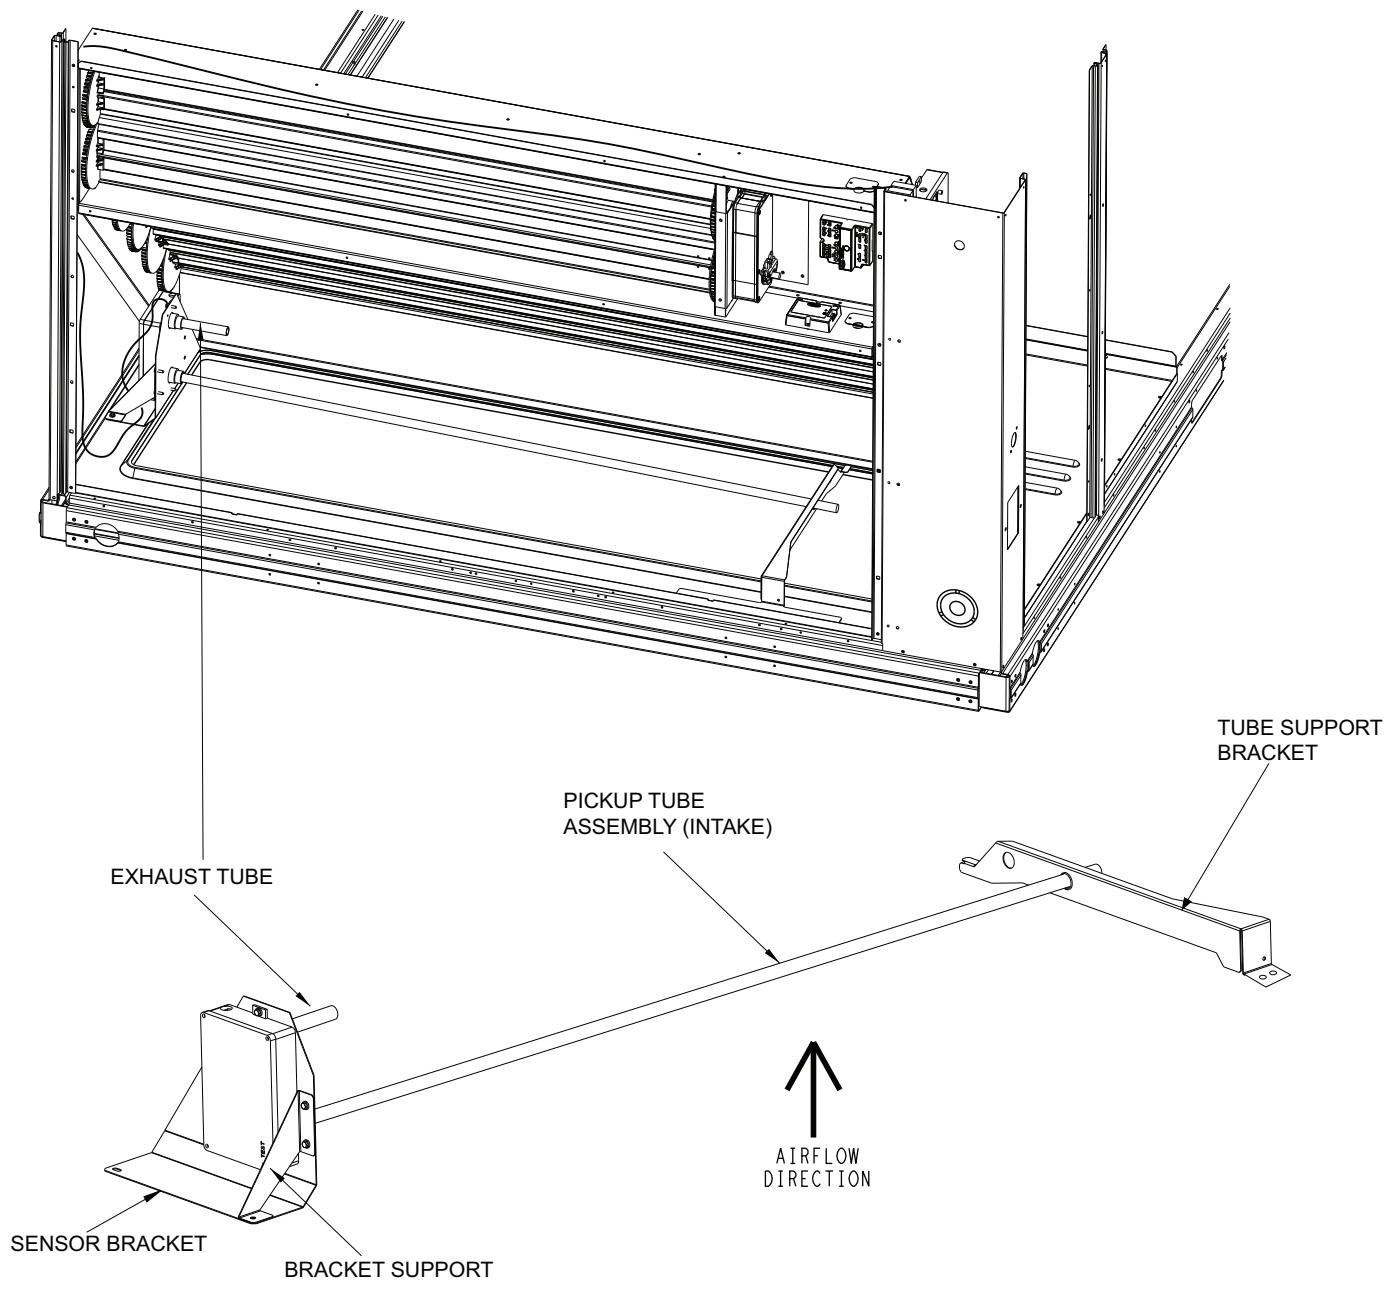

Fig. 11 — Vertical Return Sensor Assembly and Location
4. Set the pick up tube aside for later use. Using two #8 screws, install the smoke sensor to either the vertical or horizontal bracket, depending on the return duct configuration. Install the corresponding bracket support. See (Fig. 11) for locating the bracket with smoke sensor into the return section for vertical configuration and (Fig. 12) for horizontal configuration.
5. Once the brackets are installed, the pickup tube can now be slid into the support bracket. Before snapping the pickup tube fitting end into the smoke sensor, align the pick up tube's sensing holes so that they face the direction of airflow. This is shown in Fig. 11 and 12. If the unit is a vertical return, orient the holes toward the vertical opening. If the unit is horizontal return, orient the holes away from evaporator coil.